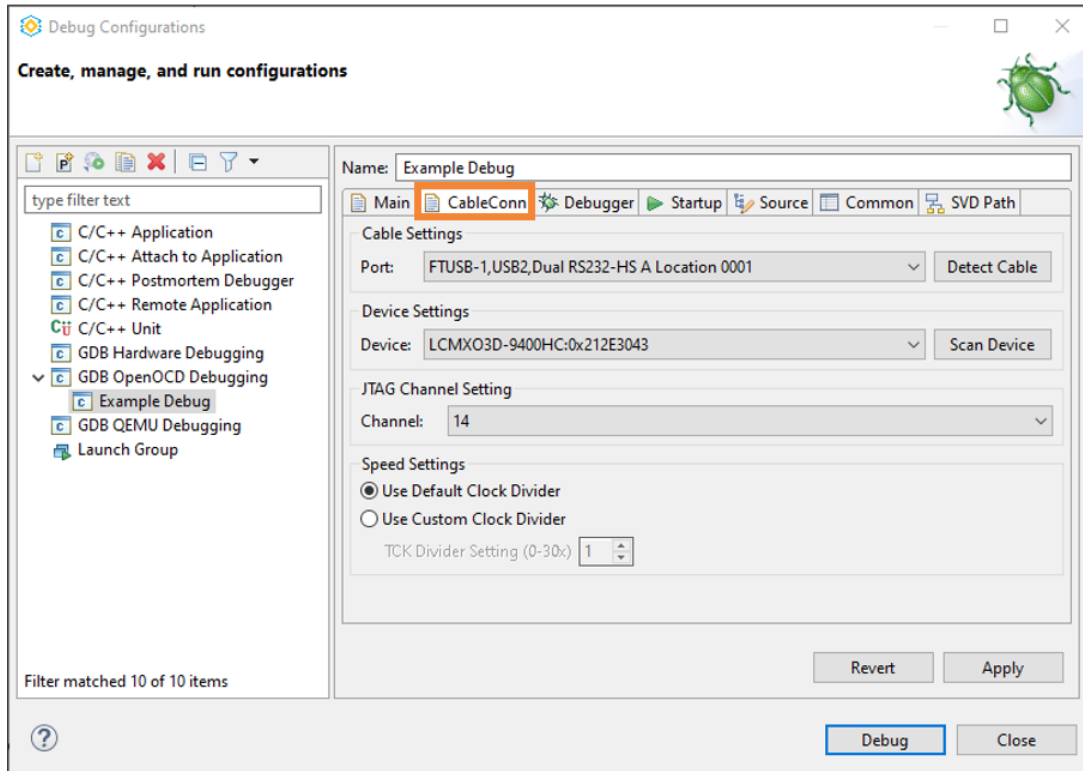

Figure 3.39. CableConn Tab of Debug Configurations
The **Debug Configurations** dialog opens (Figure 3.39).
5. Select the **CableConn** tab (Figure 3.39). This tab enables you to select a specific device on a specific cable port.